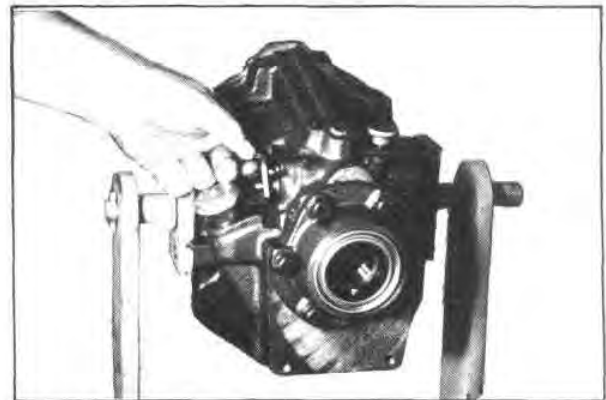

Fig. G43 — Shift Lever Removal
29. Remove the shift lever and associated parts (Figure G43).